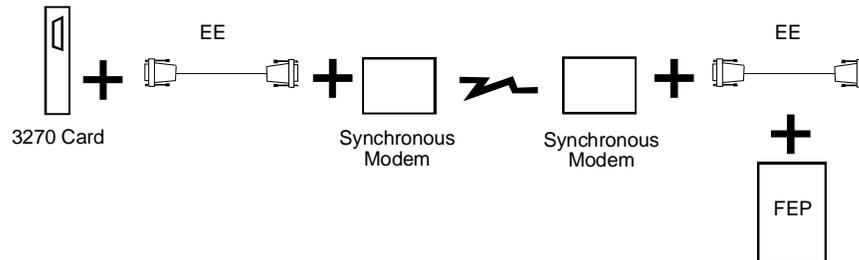
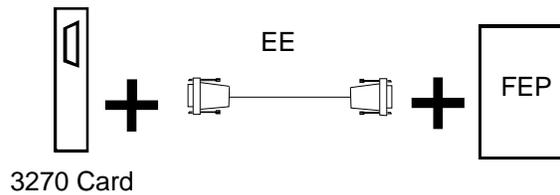

Figure E-6. 3270 Interface Connection Using Synchronous Modems
Figure E-8. 3270 Interface Connection Using a Direct Connection to the FEP
Figure E-6 through Figure E-8 show examples of external connectivity and cabling for a 3270 connection to the FEP.
- The synchronous modem (Figure E-6) must provide clocking on pins 15 and 17.
- The example in Figure E-8 assumes that the FEP provides the clocking on pins 15 and 17 to transmit and receive. This type of connection is rarely used.